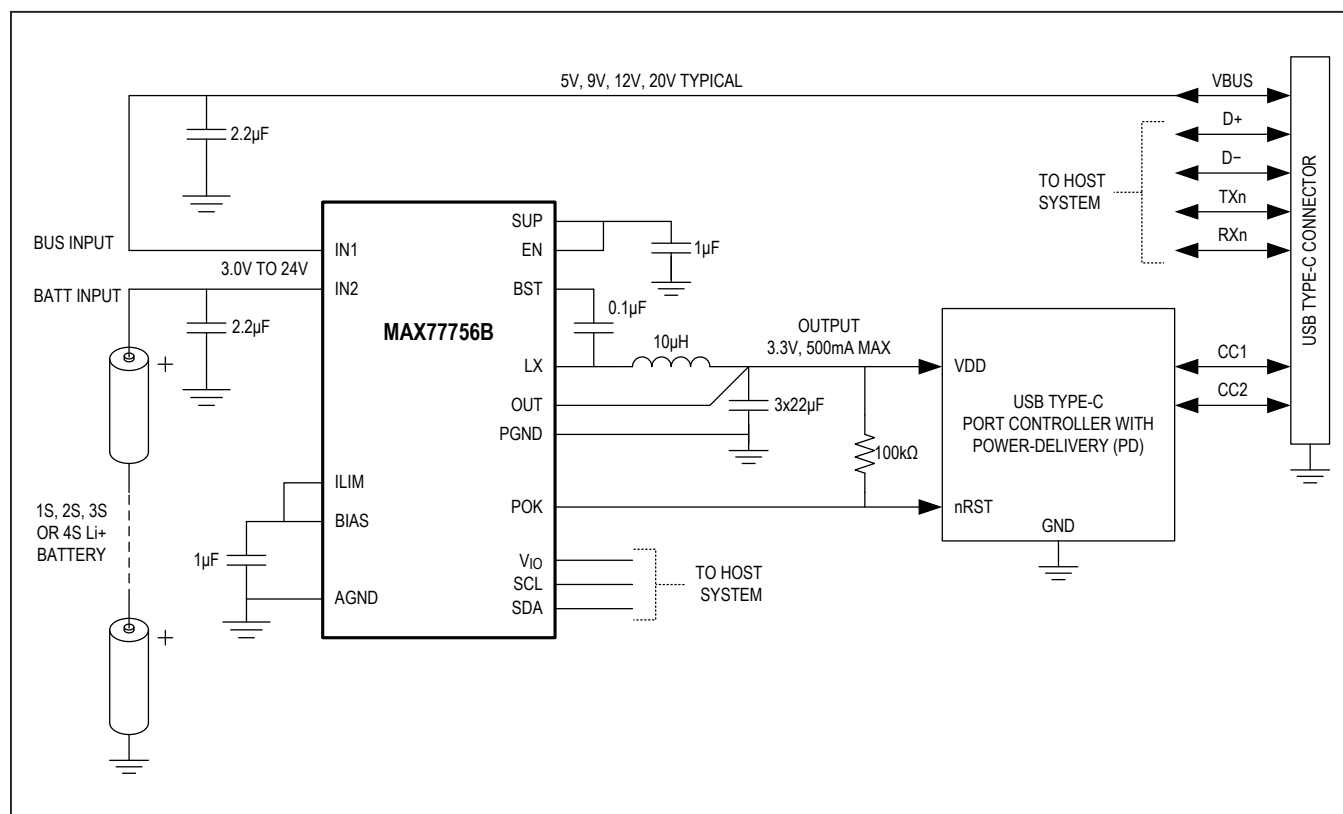

Figure 13. USB Type-C PD Port Controller Power Supply
The MAX77756 is ideal for battery-powered systems/gadgets that use USB type-C with power delivery (PD) to charge. These systems require a PD port controller to monitor device attachment to the USB port, determine roles of the attached device, and negotiate for PD voltages. See Figure 13. Applications that use the MAX77756 to power the PD controller benefit in the following ways: